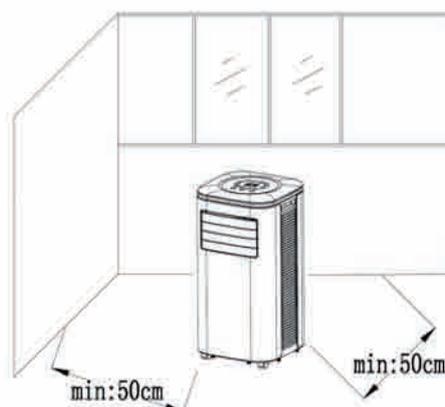

Fig. 4
5.3.1 Move the machine with installed heat pipe and fittings in front of the window, the distance between the body and walls or other objects shall be at least 50 cm (as shown in Fig.4).